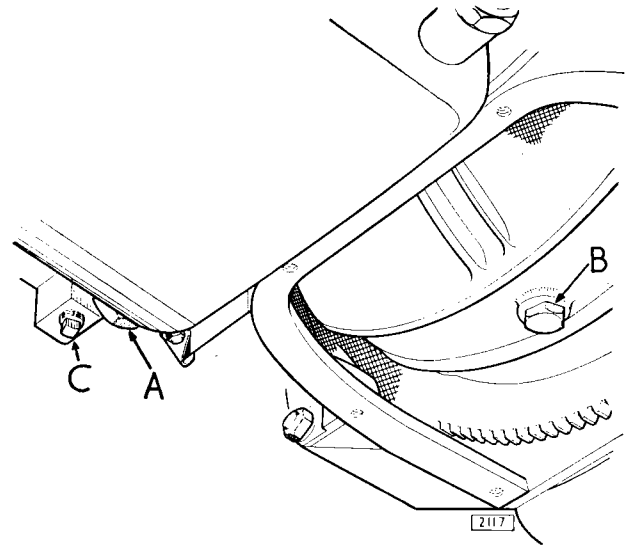

Fig. 29. Automatic transmission drain plugs (The converter housing cover plate has been removed)
4. Remove the transmission oil pan drain plug. (A, Fig. 29).
5. Remove the converter housing cover plate and rotate the converter until the drain plug is in position for draining. Remove the converter drain plug. (B).
6. To facilitate draining, remove the square-headed converter pressure take-off plug (C) from the bottom of the housing attached to the left-hand side of the transmission casing.